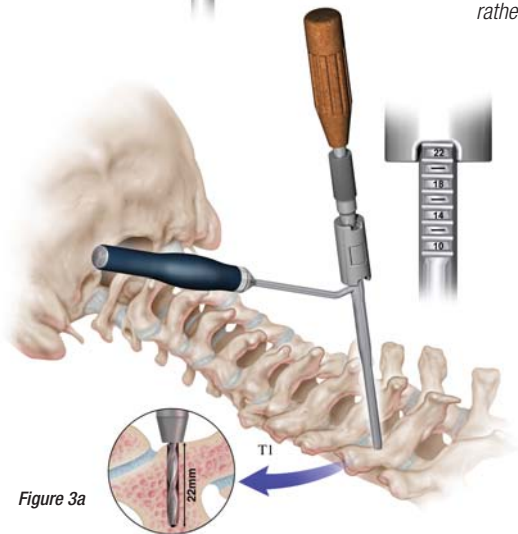

Figure 3a
- Adjustable Drill bit and Drill Guide Stop offer a drilling depth range from 10mm - 34mm in 2mm increments (Figure 3a). The depth is defined by the position of the Drill Guide Stop relative to the scale on the Adjustable Drill bit. The Adjustable Drill bit is easily inserted into the Drill Stop by depressing the locking button on the Drill Guide Stop and advancing the Adjustable Drill bit into the Drill Guide Stop.